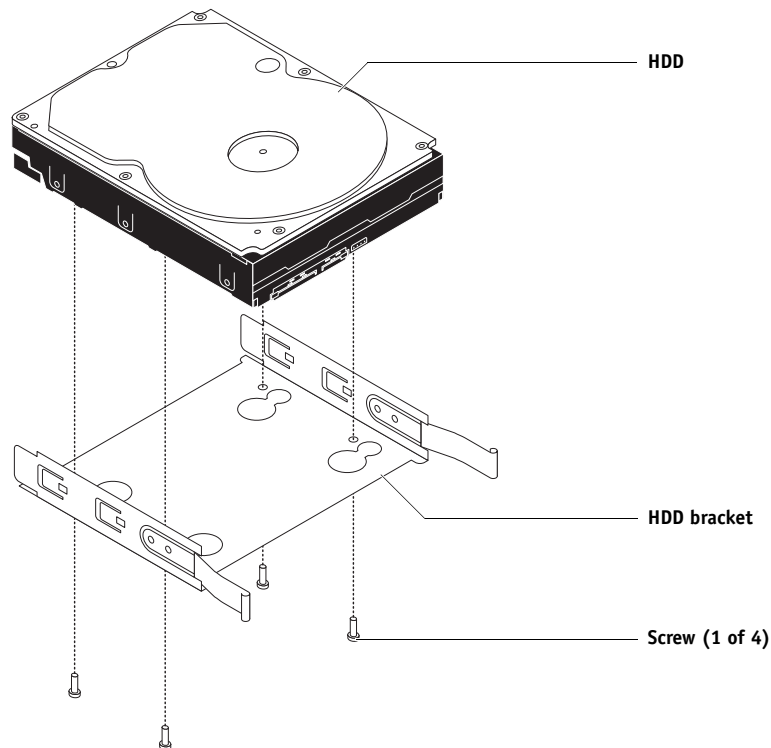

FIGURE 44: Removing/replacing the HDD bracket
6. If you are replacing the old HDD with a new HDD, remove the four screws that attach the old HDD to its bracket, and remove the HDD (see Figure 44).
Position the HDD as shown in Figure 44 on page 123.